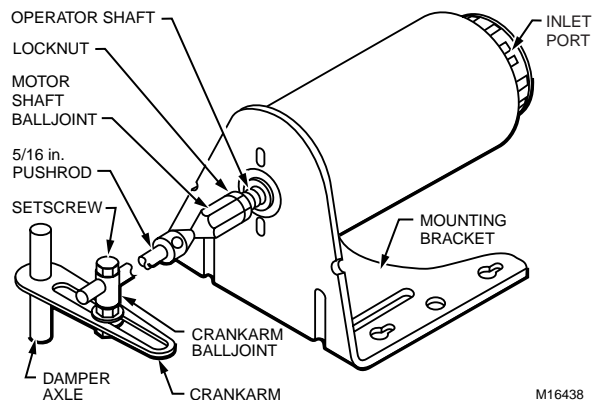

Fig. 3. Ball joint linkage.
6. Screw locknut and motor shaft balljoint onto operator shaft (see Fig. 3).